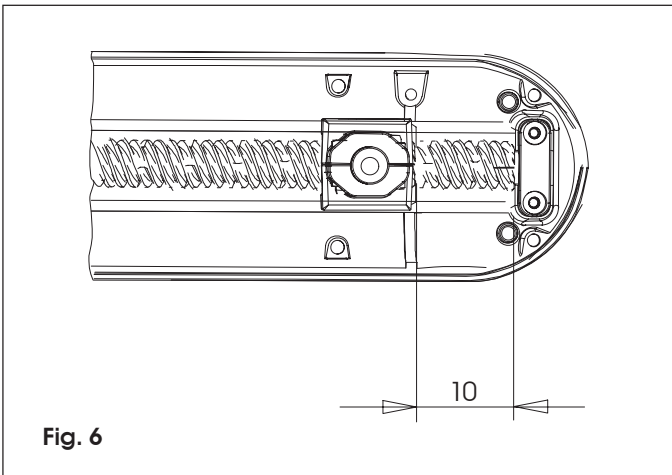

Fig. 6
- 3) Power up the motor and move the front attachment pin backward by about 10 mm (fig. 6).